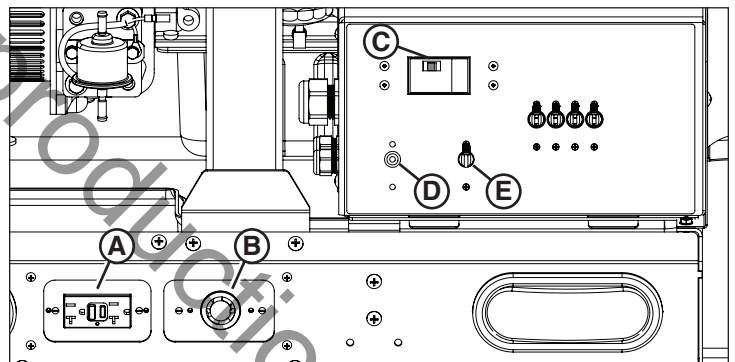

Figure 23
The control panel is equipped with a standard GFCI outlet (A, Figure 23) and Twistlock outlet (B). (Outlets are covered.)
Power is supplied to the outlet(s) only when the engine is running and the main circuit breaker (C, Figure 23) is in the ON position.
Each outlet is protected by a dedicated circuit breaker: 20 amp for GFCI (D, Figure 23), 30 amp for Twistlock (E).